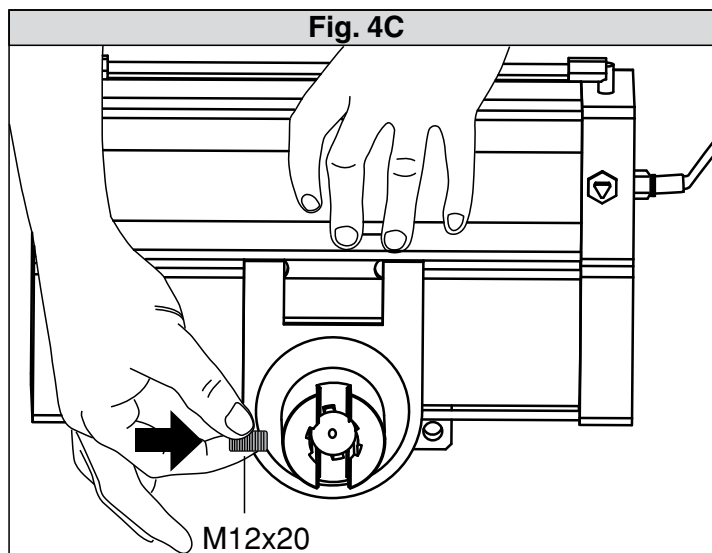

Fig. 5
- Open the leaf so as to have enough room to insert the operator (Fig. 5/A).
- Insert the operator following the movements indicated in figure 5, until the lower plate becomes inserted between the walls of the case, and bring the operator to the intermediate position shown in Fig. 5/C.
- Slightly lift the operator by holding it from the front (Fig.5/D) and push it against the stop plate as in Fig. 5/E. You can be sure of correct positioning when the holes “K” in the plate are aligned with the nut welded on the bottom of the case (Fig. 5/F).